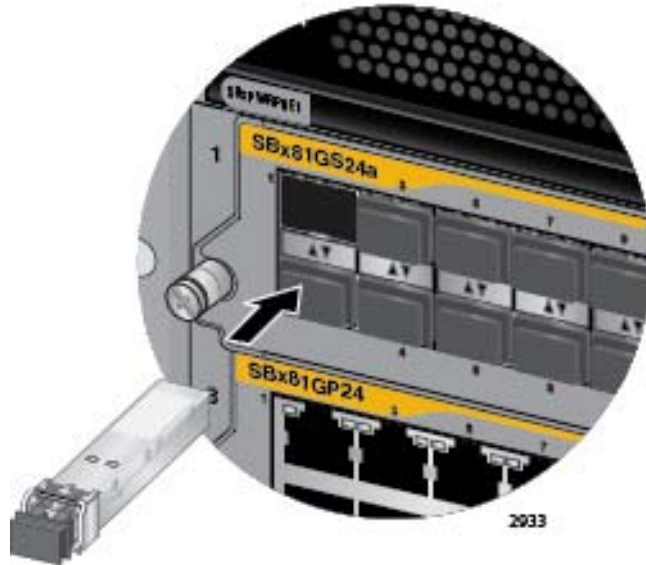

Figure 77. Inserting the SFP Transceiver in the AT-SBx81GS24a Line Card
- Slide the transceiver into the slot until it clicks into place, as shown in Figure 77.